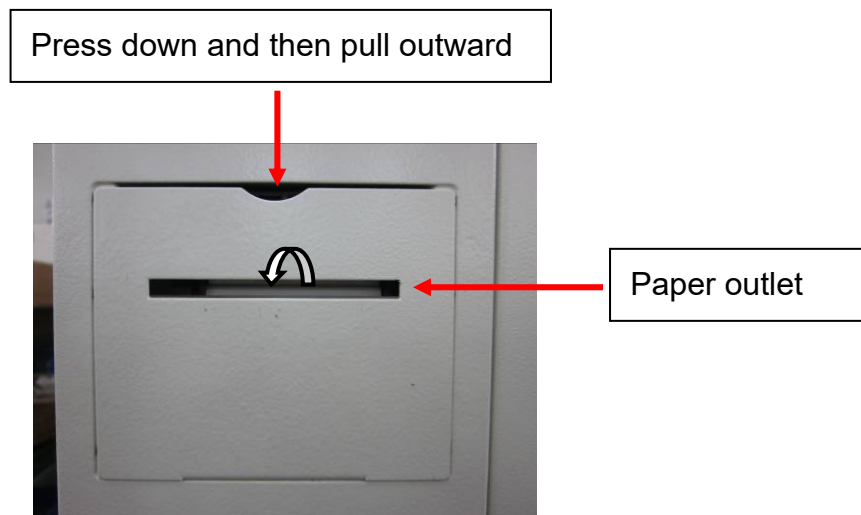

Figure 138
- B. Press down and then pull outward the rim of the printer cover (See Figure 138).